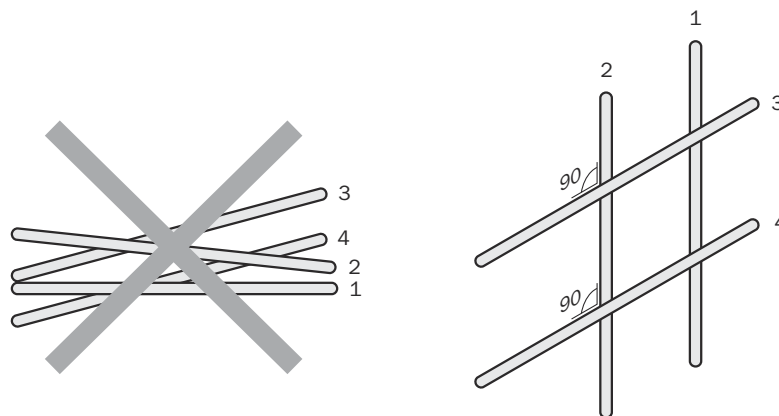

Figure 5: Cross cables at right angles
- ▶ Cables in groups 1, 2 and 3, 4 must be crossed at right angles (see figure 5).